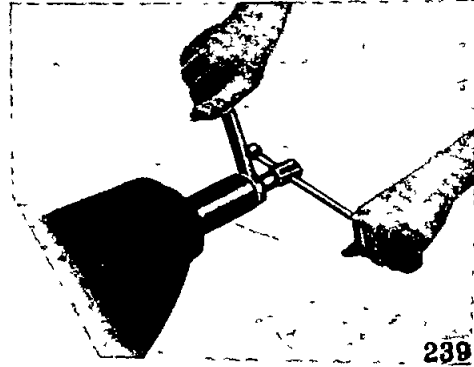

Fig. 6
- 2) There are few numbers with 0 & + or - besides set number marked by an electric pen on the tip head surface of drive pinion. They show the manufacturing error in a figure at the unit of 0.001 in (0.025 mm) to decide the thickness of adjusting shim for adjustment of standard position (The standard pinion height is 61.0 mm from axle center as shown in Fig 6). If the figure is difficult to discriminate due to the corrosion, scrape off the oxidized substance on the surface by a somewhat narrow grind stone with care not to scrape off even the mark